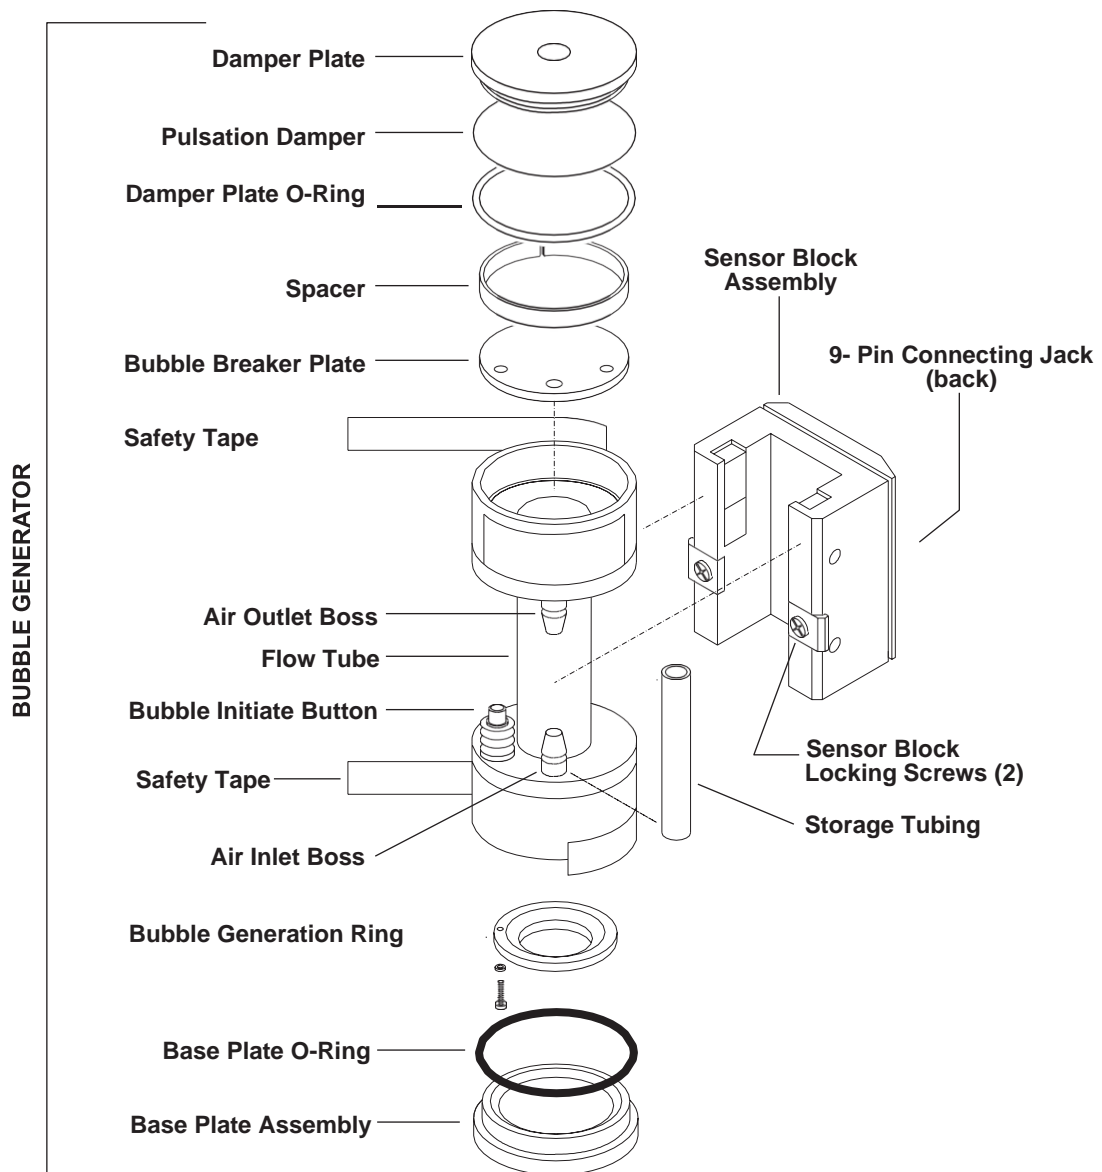
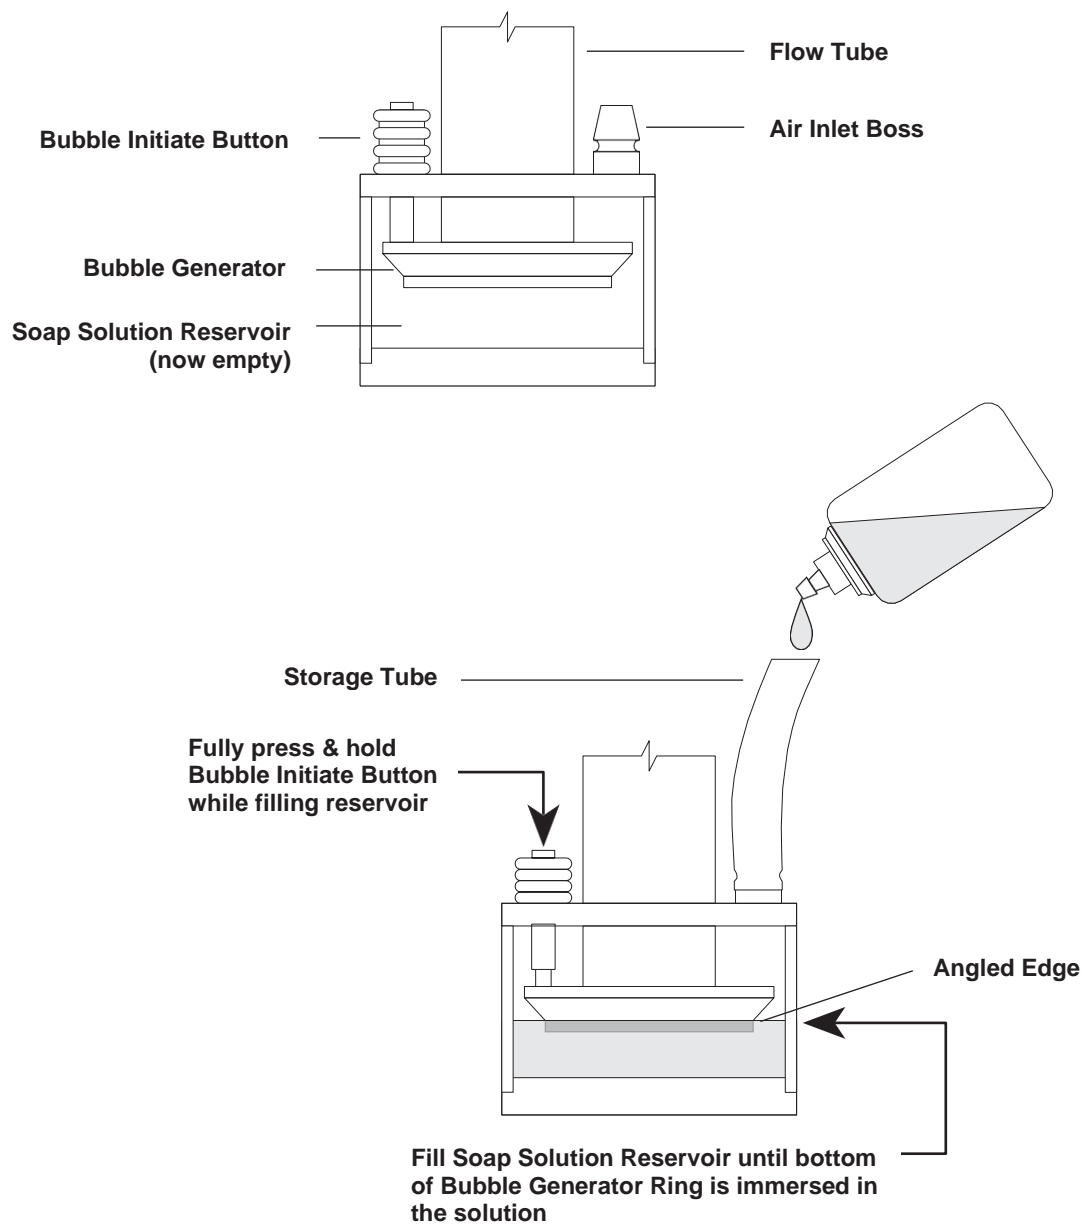

Figure 2.3
Figure 3.4
The Wet Flow Cell Assembly (refer to Figure 2.3) consists of a Bubble Generator and Sensor Block. Each Bubble Generator is sized to produce a bubble film stretched across the diameter of the flow cell tube. The bubble is carried by airflow from the bottom to the top of the tube. As the bubble moves past two infrared sensors, each sensor transmits a signal to the Control Unit indicating the passage of the bubble film. A manual push-button on the Flow Cell Assembly starts the bubble film on its travel up the tube.
When installing a Wet Cell on the Control Base, insert the 9-Pin Interface Plug from the Control Base directly into the Connecting Jack located on the back of the Wet Cell (refer to figure 2.3). Be sure to properly match up the connectors before engaging.
- 1) Remove the Storage Tubing from the Air Outlet Boss (see Figure 2.3) of the Flow Cell. Fill the dispenser bottle provided with Gilibrator soap solution. Using the rubber Storage Tubing as a funnel, slowly add soap solution from the dispenser (refer to Figure 3.4).